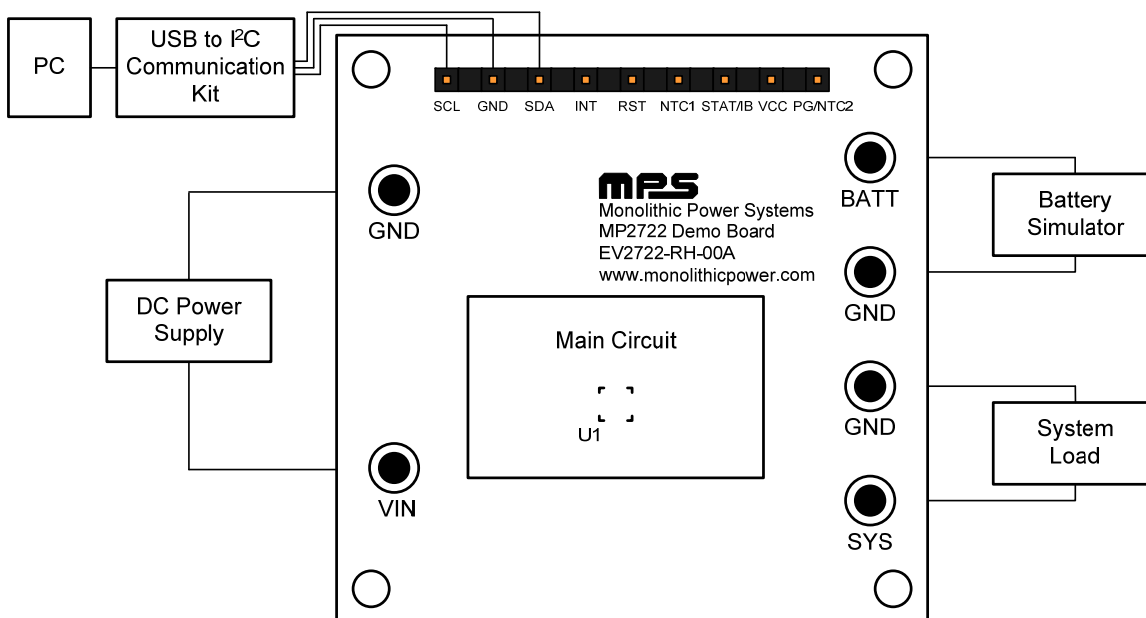

Figure 2: Measurement Equipment Set-Up
3. Configure the test set-up for the MP2722 (see Figure 2 on page 3).